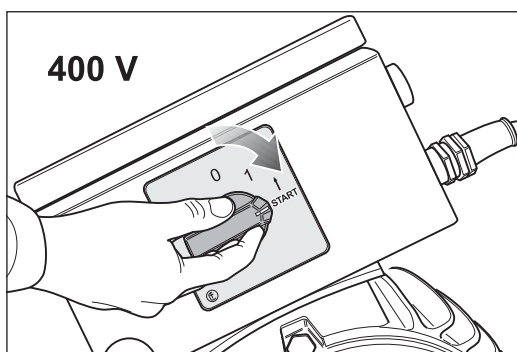
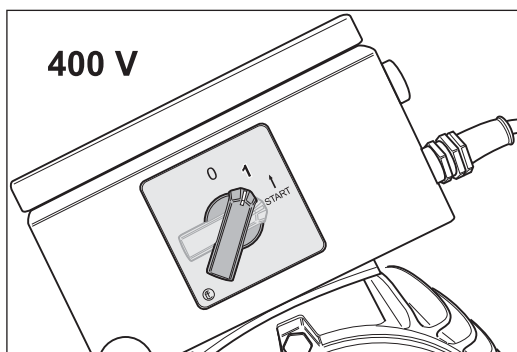

Fig. 25 To switch on the machine turn the switch button at the motor to position -START-.
Fig. 26 Release the switch button. The button turns automatically in position -1-.
- 2** To switch on the machine turn the switch button at the motor to position -START- (fig. 25) and release the switch button after the motor has reached its full speed. The switch button will then automatically move to position -1- (fig. 26).